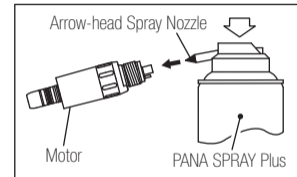

Fig. 6
- 2) Mount the arrow-head spray nozzle tip into the spray can port. (Fig. 6)